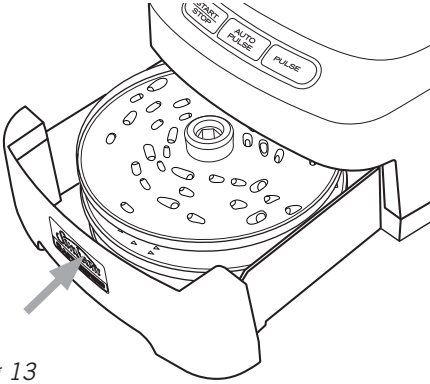

Fig 13
6. Close storage drawer, see figure 13.